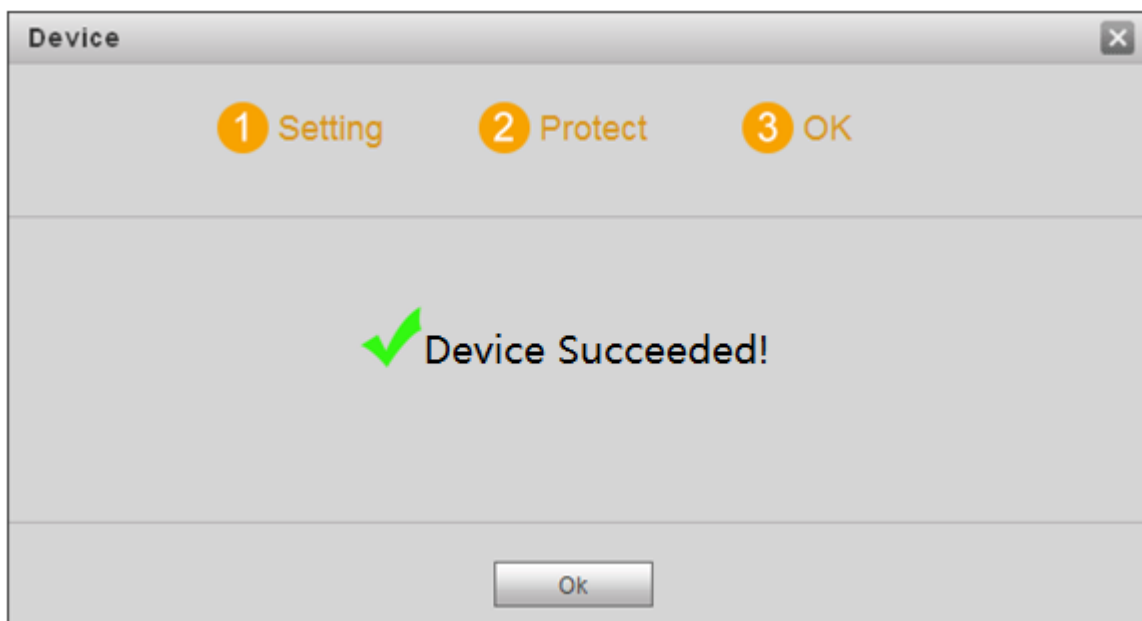

Figure 7-3
Step 4 Click “Next”. The system displays “OK” interface, as shown in Figure 7-3, and shows “Device succeeded!”